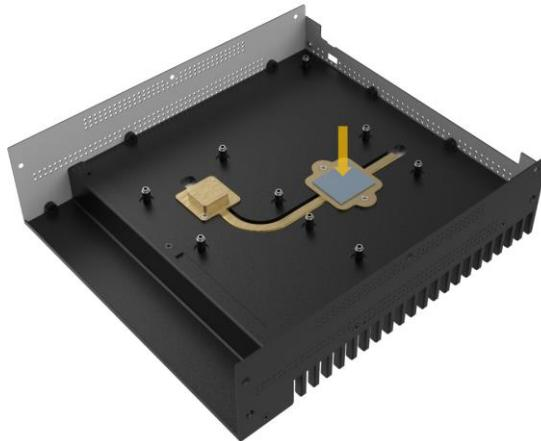

Figure 3-4: CPU Thermal Pad Installation
Step 4: Place a thermal pad on the heat conductive block of CPU (Figure 3-4).